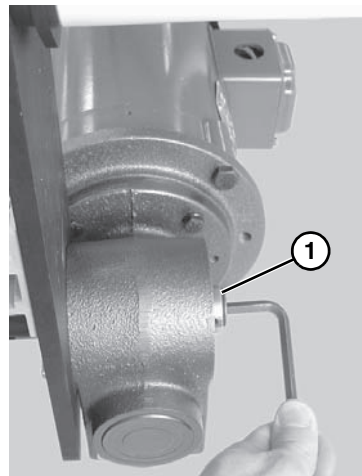

Figure 15
2. Loosen M10 shaft locking screw (**Figure 15, item 1**).